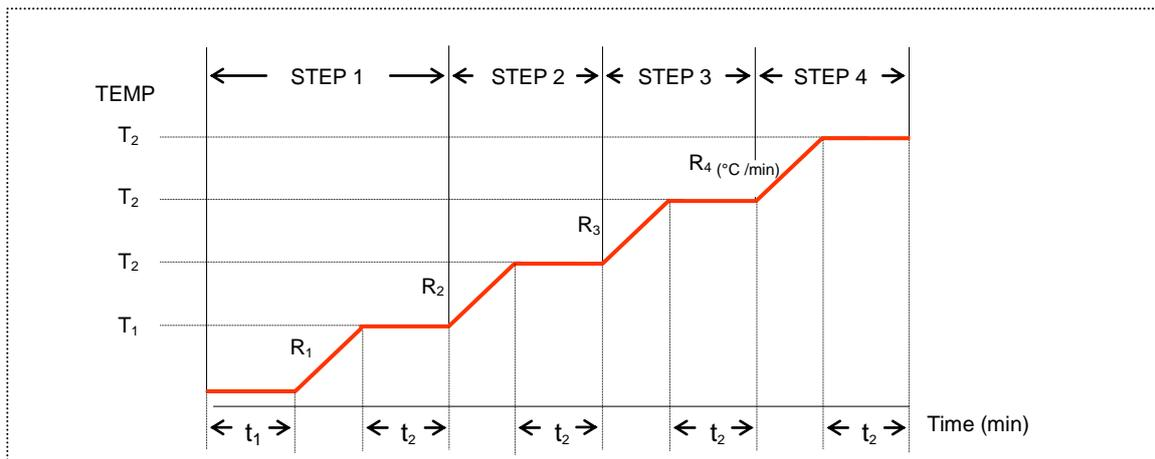

Fig. 4.15 EGA Multi-step heating program
- (1) Check the checkboxes for Furnace and Interface (B) to turn on the heaters.
- (2) Enter parameters for Step 1 in D through H.
- (3) Type in parameters for Step 2. Entering “0” for Rate (°C/min) in subsequent rows will stop executions of the steps beyond. Fig. 4.15 illustrates a schematic diagram for a 4-step heating sequence. In direct EGA analysis, a one-step sequence (step 1 only) is normally used.
- (4) When the sequence is automated using the Selective Sampler, click on “Settings” (C) to open a dialog box and check the checkbox for SS.